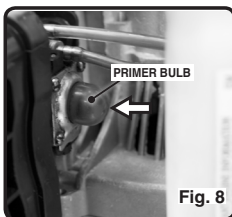

Fig. 8
4. Press the primer bulb slowly 6 times. (See Figure 8)